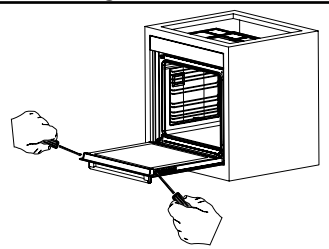
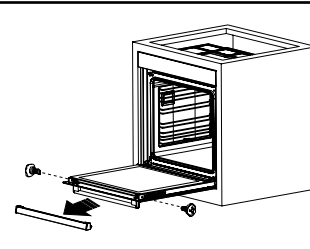
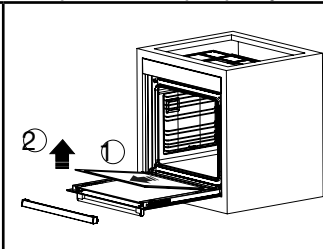

Figure 140
Figure 141
Figure 142
**2.** Remove the screws on the left and right side as shown in Figure 140. Remove the profile by pulling it towards you as shown in Figure 141. Glass is free after the profile is removed as shown in Fig. 142. Carefully pull the glass that has become free toward you. If necessary, the central glass can be removed in the same way. The outer glass is fixed to the oven door profile. You may easily clean the glass after it has been separated. Once the cleaning and maintenance is complete, you may replace the glasses and the profile by performing the removal procedure in reverse. Make sure that the glass is inserted in the correct direction and that the profile fits properly.